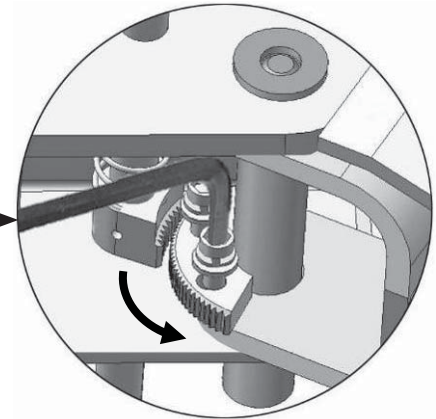

Fig. 32
2. Lower the carriages down to the lowest position. Use the 8mm Allen head wrench to loosen the Allen bolt (See Fig. 32).